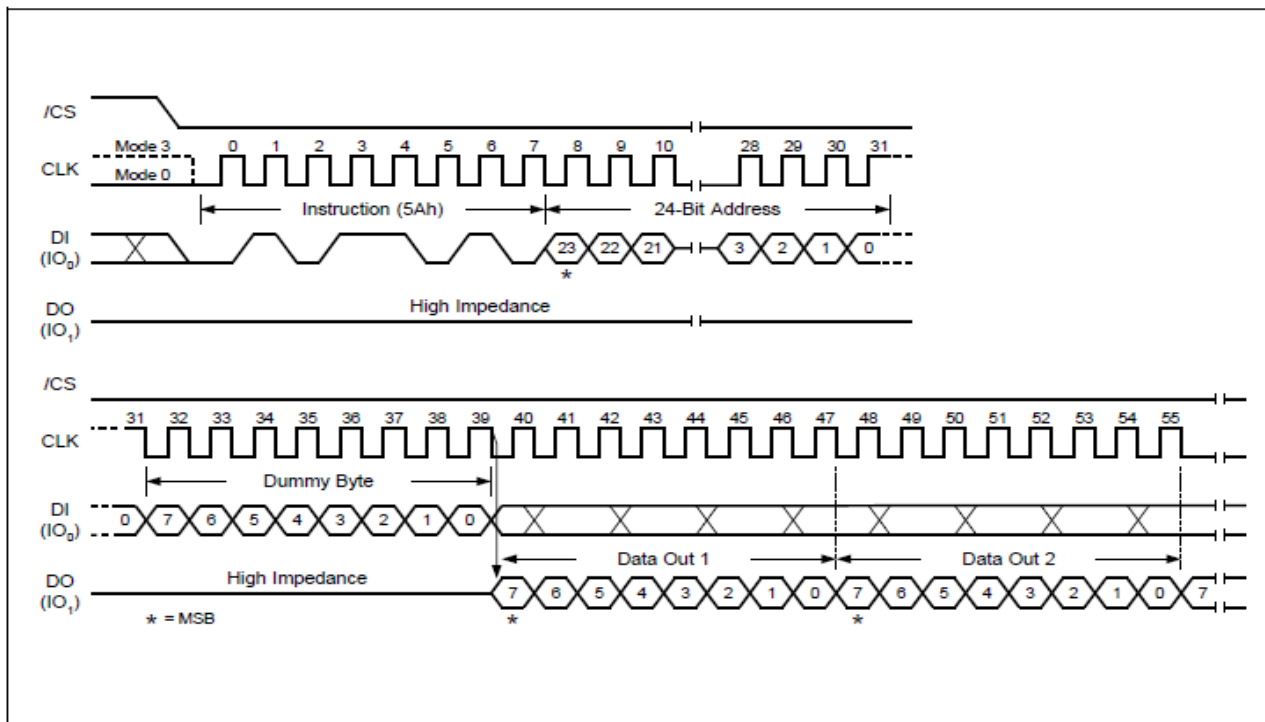

Figure 49. Read SFDP Register Instruction Sequence Diagram
The Read SFDP instruction is initiated by driving the /CS pin low and shifting the instruction code “5Ah” followed by a 24-bit address (A23-A0)(1) into the DI pin. Eight “dummy” clocks are also required before the SFDP register contents are shifted out on the falling edge of the 40th CLK with most significant bit (MSB) first as shown in Figure 49. The byte address is automatically incremented to the next byte address after each byte of data is shifted out. The last byte address of the register is FFh (the data will always be FFh when read after the last address), For SFDP register values and descriptions, please refer to please refer to the following SFDP Definition Table.